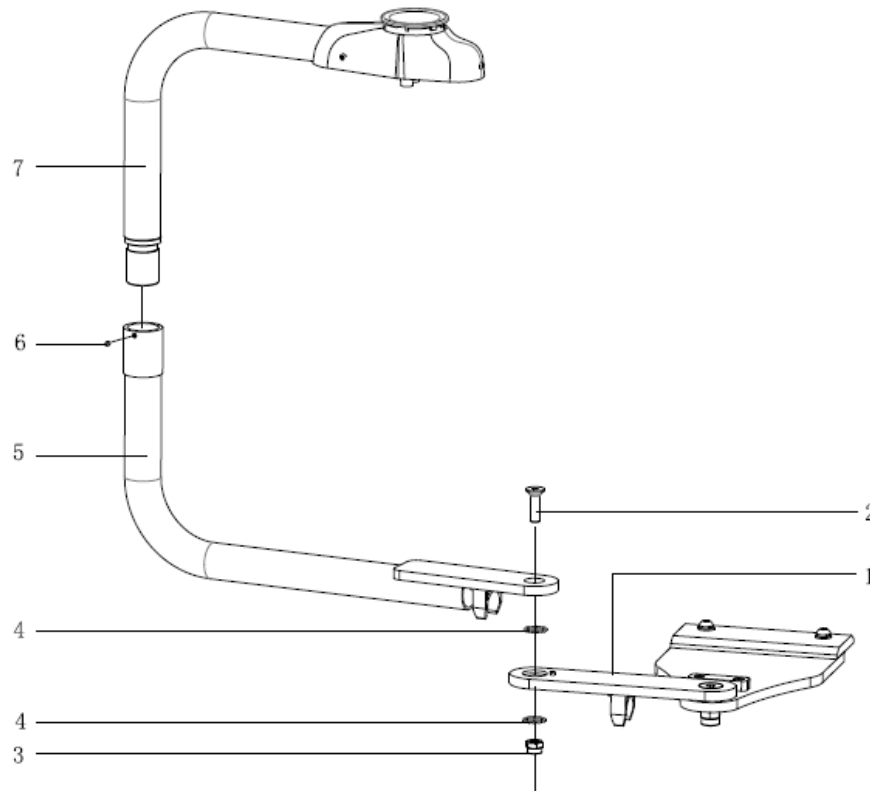

Figure 13. Assistant's system upper and lower elbow installation
1. Put two flat bearing washers ④ on top and bottom of the rear pivot chair adapter B ①.
2. Put the assistant's system lower elbow ⑤ on top of the rear pivot chair adapter B ①.
3. Install the lower elbow ⑤ to the rear pivot chair adapter B ① with the flathead screw ②, flat bearing washers and the nylon lock nut according to Figure 13.
4. Insert the assistant's system upper elbow ⑦ into the lower elbow ⑤. Slightly tighten the set screw ⑥ to allow rotating movement with the lower elbow. Rotate the upper elbow several times to make sure the rotation movement is smooth and secured.